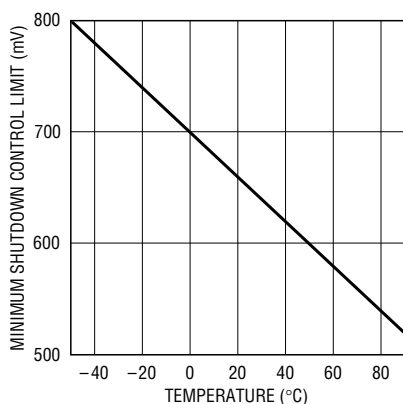

Figure 4. Minimum Shutdown Control Limit vs Temperature
When shutting down the LT1680, the RUN/SHDN pin voltage must remain between the shutdown threshold ($\sim 1.13\text{V}$) and a minimum shutdown control limit voltage (see Figure 4) for a least $25\mu\text{s}$. If a digital input or fast moving clamp is used, this can be achieved by forcing a shutdown control voltage above the minimum limit or by using a simple integrator to increase the fall time of the input signal. A single pole integrator stage must have a $\tau \geq (7)(10^{-5})$.